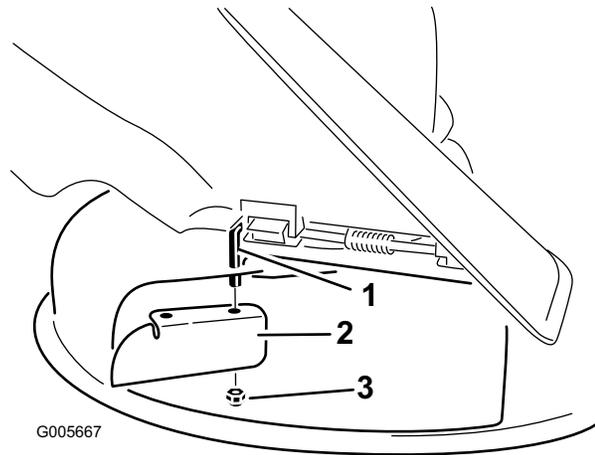

Figure 10
- Install the cutoff baffle to the exposed pivot rod (Figure 10). Use the existing thin nut (3/8 inch) to secure the baffle to the mower.